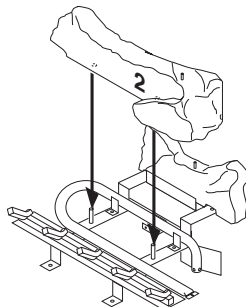

Figure 19 - Installing Log #2
- Place log #2 (large front log) over pins on grate (see Figure 19).